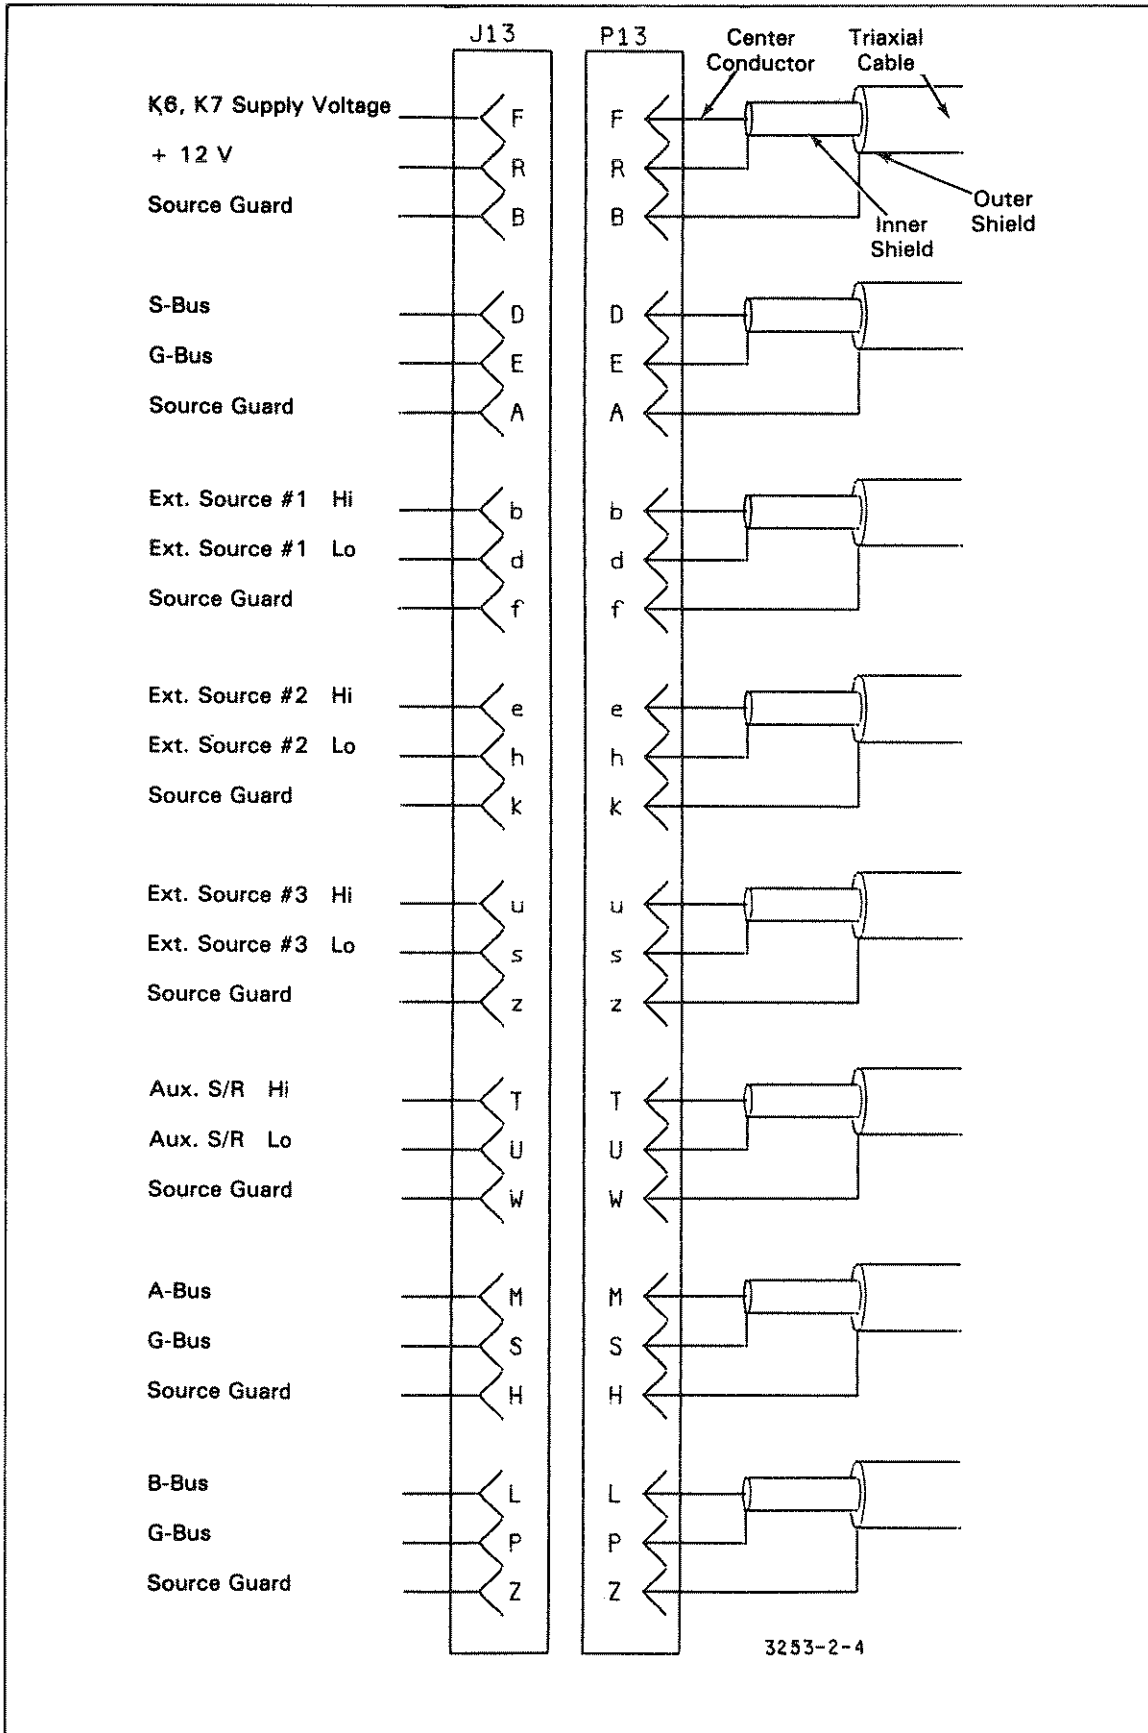

Figure 2.4. J13 Wiring Diagram.
- ⚠ ① J13 Stimulus Connector (in 3060A System connects to P13). Refer to Figure 2-4 for connector wiring.